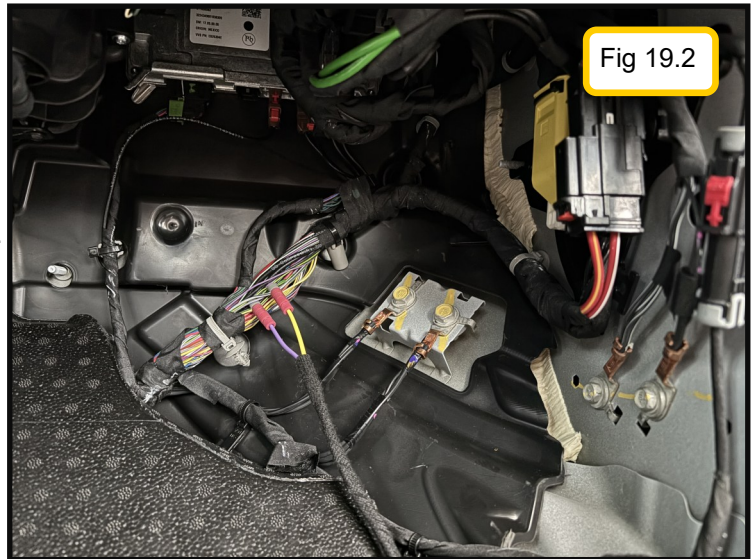

Fig 19.2
2. CAREFULLY cut away the tape wrapping around the harness. (Fig 19.2)